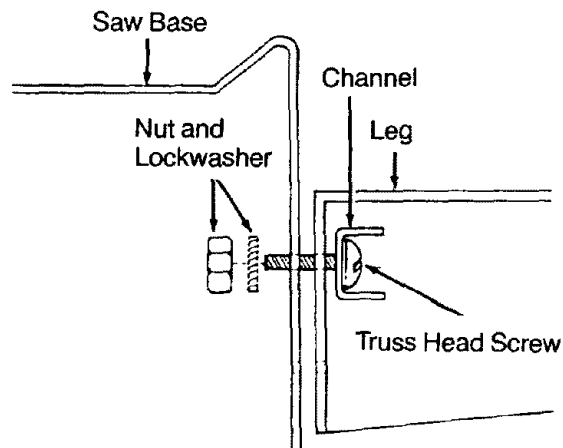

Fig. 38
5. Position the front *channel piece* inside the *legset*. (Figure 38) Fasten the *channel piece*, *leg*, and *saw* together with two *truss head bolts* on each side. Put a *lockwasher* and *hex nut* on each bolt. The threaded section of the bolt should point towards the *arm assembly*.